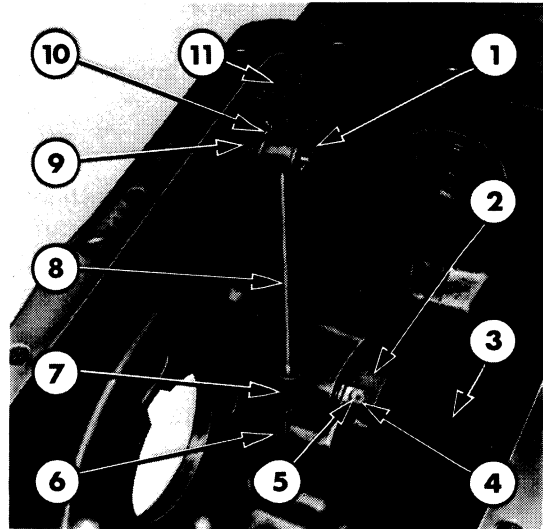

Figure 14
8. Loosen the jam nut and remove the set screw, Figure 14.